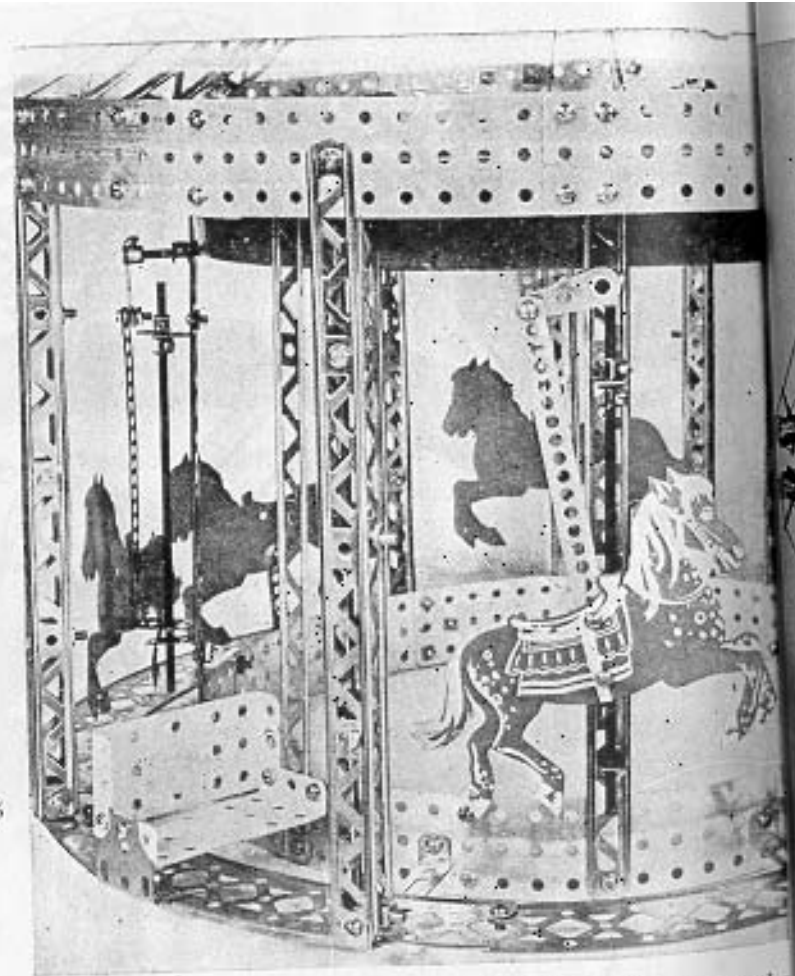

FIGURE 6
ASSEMBLY OF HORSES —FIGURE 6 AT RIGHT
The two stationary horses are fastened to the outer bottom ring with a (G) 7 hole strip and a (CH) right angle (Figure 1). The horses that move up and down do so by using an (AA) eccentric crank (Figure 6) which is fastened to the revolving $7\frac{1}{2}$ " axles. An (O) pawl is fastened to the horse which moves
up and down on an 8" axle which is fastened to the (C) 10" girders with two (O) pawls. The seats are constructed with two (MC) $1" \times 2\frac{1}{2}"$ base plates which are fastened to the outer bottom ring with a P79 car truck. The seat is also fastened to the inner bottom ring. See Figure 6.